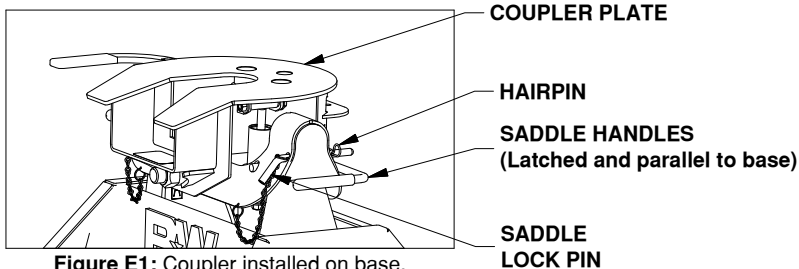

Figure E1: Coupler installed on base.
- Place coupler.** Lubricate the polyurethane bushings on top of the pivot arms with high grade lithium grease (available at your local hardware/automotive store). Place the coupler over the pivot arms. (The saddle handles should be parallel with the base in the latched position.) Place the saddle lock pins through the saddle, then insert the hairpins through the holes in the end of the saddle lock pins to secure the coupler to the pivot arms, see Figure E1.